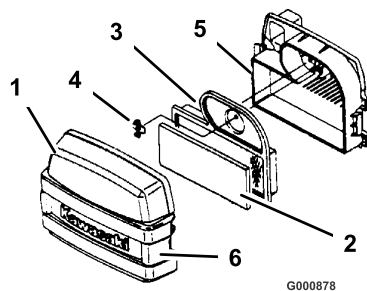

Figure 31
4. Clean around the air cleaner to prevent dirt from getting into the engine and causing damage. Unlatch the two side latches and remove the air cleaner cover (Figure 31).
5. Carefully remove the foam element from the paper element (Figure 31).
6. Unscrew the wing nut and remove the paper element (Figure 31).
1. Carefully slide the foam element onto the paper air cleaner element (Figure 31).
2. Place the air cleaner assembly onto the air cleaner base and install the wing nut (Figure 31).
3. Install the air cleaner cover and secure the latches (Figure 31).